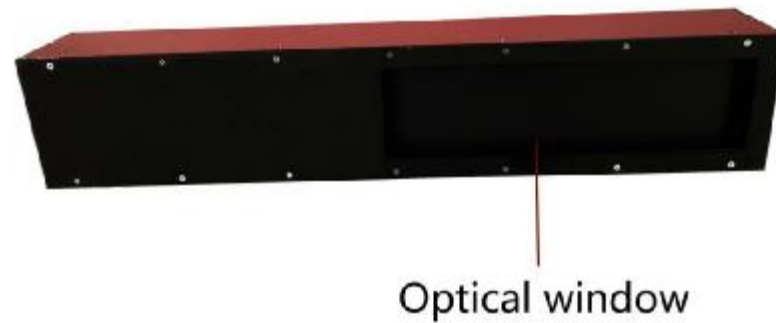

Fig. 5
2. When measuring, the detection window of the instrument is required to align to the measured object. An optical window at the bottom of the instrument is shown in Fig. 5. When using the instrument, place it flat on the measured object and put the optical window completely in the scope of the measured object.